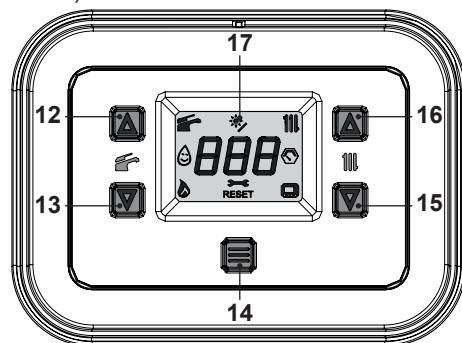
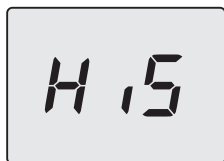
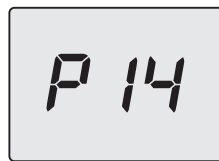
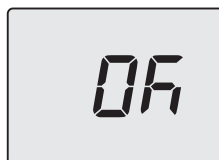

Fig. 8.9
Fig. 8.10
Fig. 8.13
Fig. 8.15
- Enter “programming mode” by pressing the 13 and 15 keys simultaneously for 5 seconds (Fig. 8.9) until **HiS** (Boiler History) appears on the LCD display (Fig. 8.10).
- Press the 14 key for 1 second (Fig. 8.9) to enter the selected parameter. The display will show the following (Fig. 8.13).
- Press button 14 (Fig. 8.9) to confirm the value entered. The display will show the following (Fig. 8.15) for 5 seconds, then move up to the next level.
- Press the keys 13 and 15 simultaneously (Fig. 8.9) to exit the level without changing the value (return to the previous level).
- press the 13 and 15 keys simultaneously for 5 seconds (Fig. 8.9) (return to previous level).
However, if the ambient temperature is not comfortable, the flow temperature of the heating system can be increased or reduced by $\pm 15^{\circ}\text{C}$ by pressing the keys 15 (reduce) and 16 (increase) (Fig. 8.9).